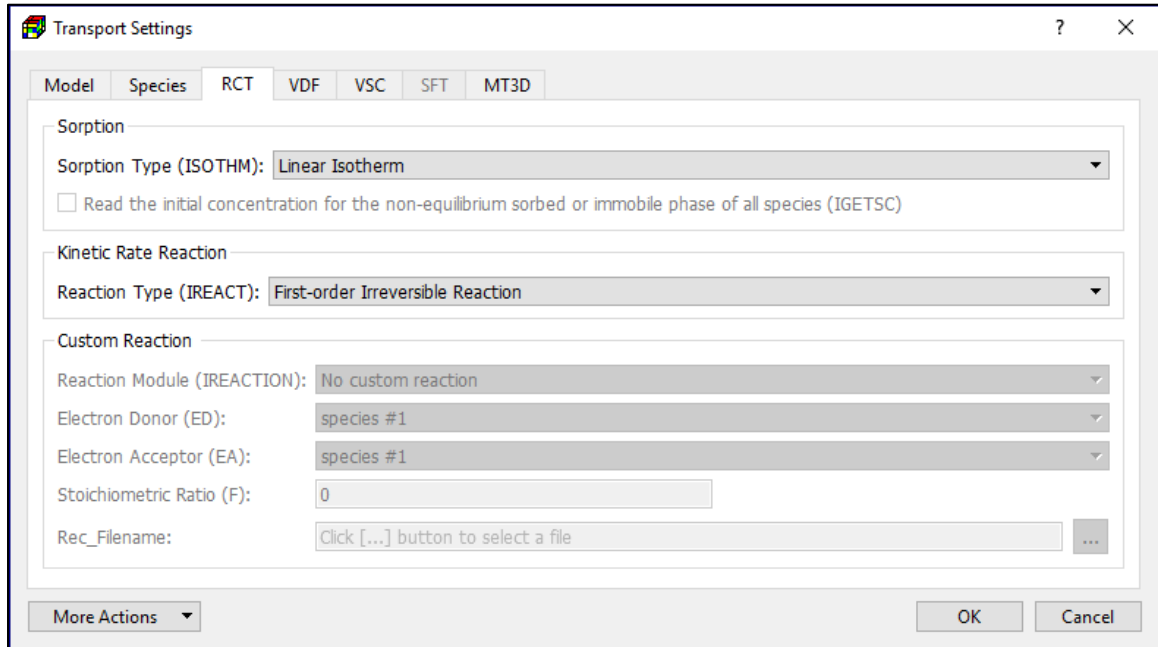

Figure 98. The RCT tab of the Transport Settings dialog box
- **DRHODC** is the slope that relates fluid density (ρ) to solute concentration (C), i.e., $\partial\rho/\partial C$. This is used only if the Variable Density Flow (VDF) process of SEAWAT is turned on.
- **DMUDC** is the slope that relates dynamic viscosity (μ) to solute concentration (C), i.e., $\partial\mu/\partial C$. This is used only if the Viscosity (VSC) package of SEAWAT is turned on.
4. **RCT Tab** (Figure 98) contains options for the Reaction Package. The available sorption and reaction types and their required parameters are described as follows. The required parameters for the selected options must be specified in the *Models > MT3D/SEAWAT > Packages > Reaction (RCT)* menu.